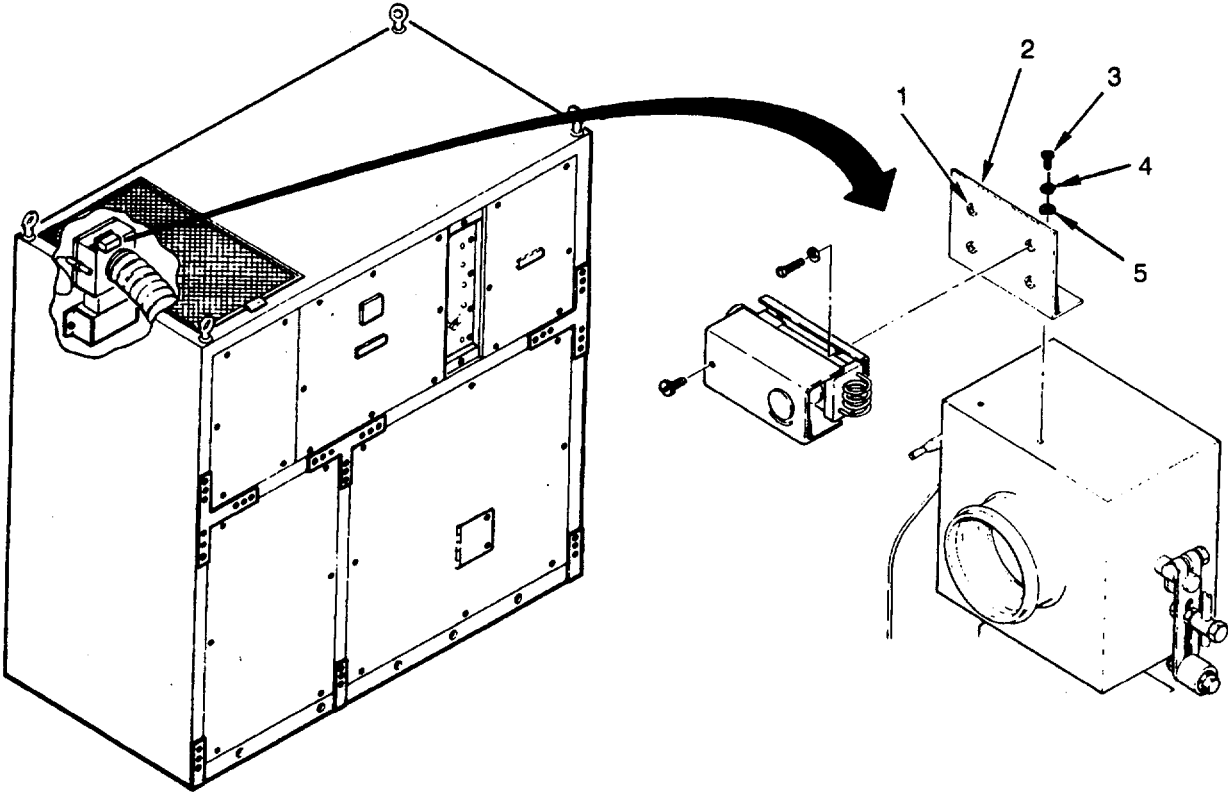

Figure 4-38. Thermostat Bracket
1. Check that bracket (2) is not cracked or punctured (see Figure 4-38).